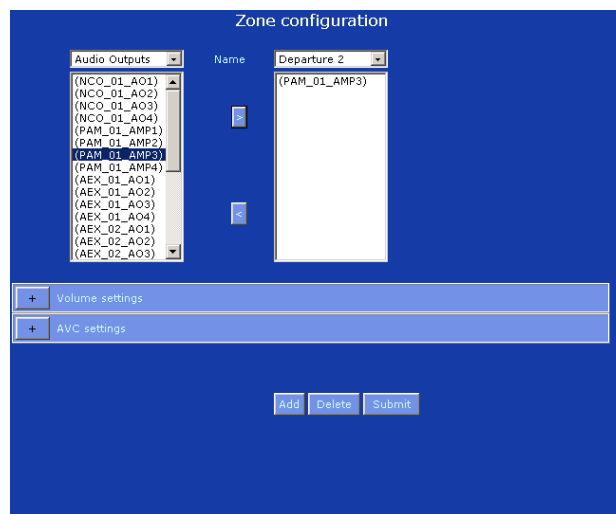

figure 36.8: Add zone, step 6
- 6 Double click the selected output or click the > button to add the output to the zone. A screen similar to the one in figure 36.8 appears in the main frame of the web interface.